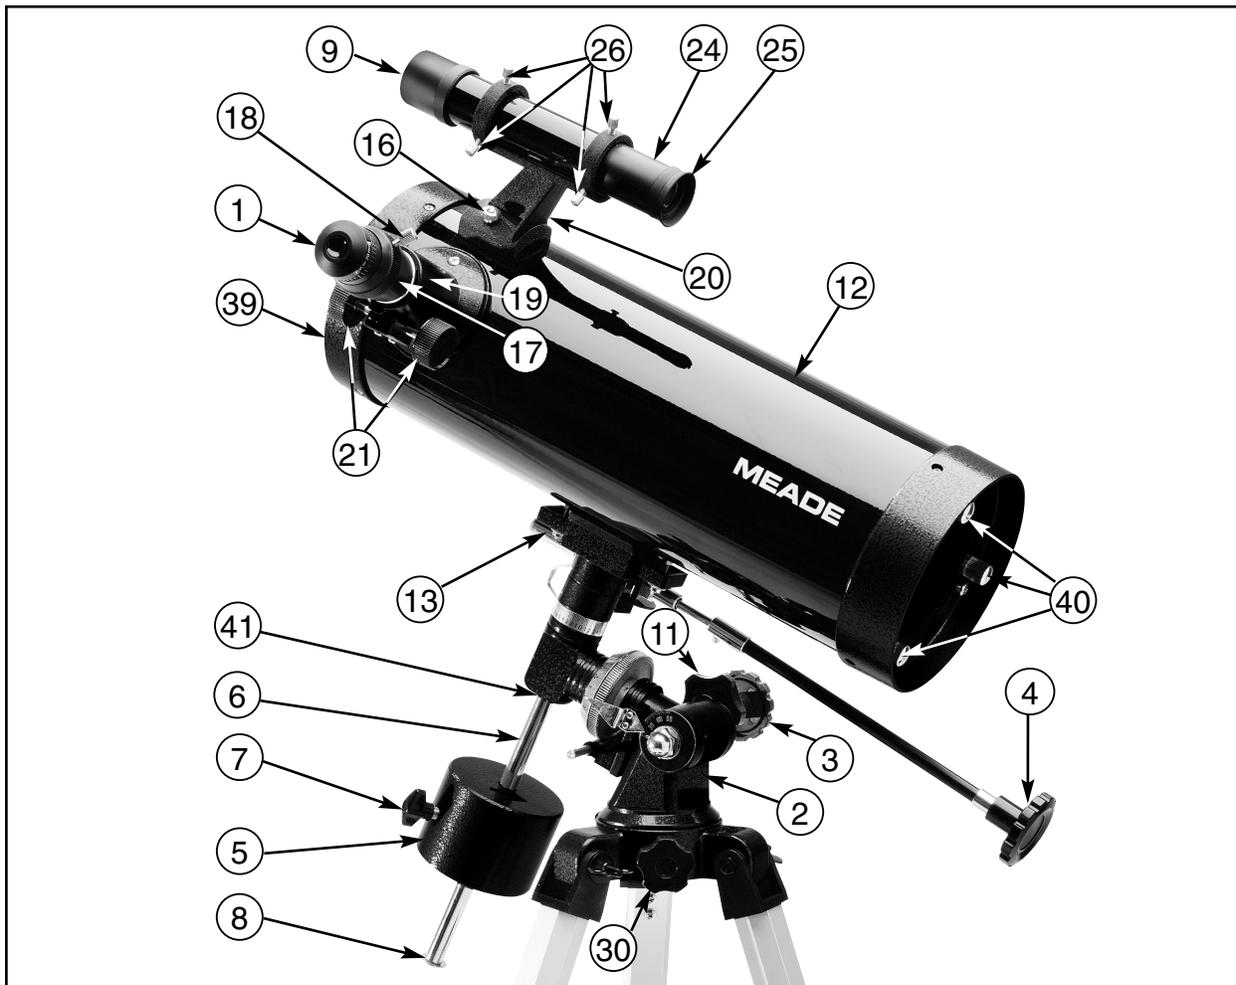
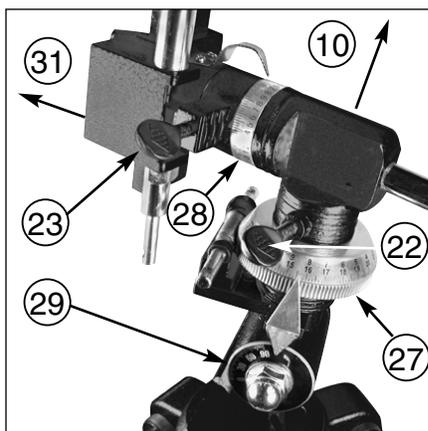
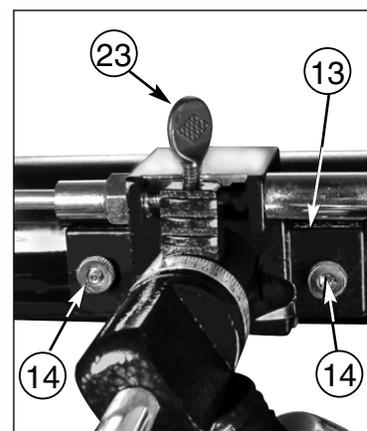
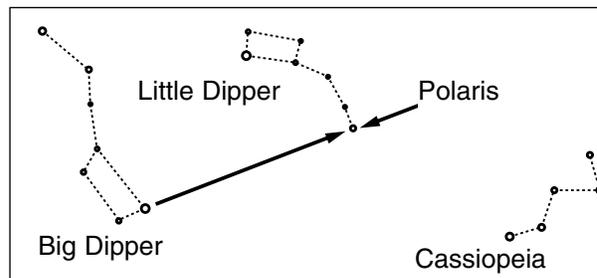

Fig. 1a: Model 114ST EQ-D: Optical tube assembly.
Fig. 1c: Mount features.
Fig. 1d: Optical tube attachment (underside view).
Fig. 5: Locating Polaris.
Key to Figs. 1a - 1g
6. Holding the counterweight (**5, Fig. 1a**) firmly in one hand, slip the counterweight onto the counterweight shaft (**6, Fig. 1a**). Attach the counterweight and counterweight shaft, by supporting the unlocked counterweight firmly in one hand while threading the counterweight shaft into the base of the Declination axis of the telescope's equatorial mount (**41, Fig. 1a**). Once firmly attached, slide the counterweight about 2 inches from the bottom of the counterweight shaft and secure it in place with
the counterweight lock (7, Fig. 1a) of the counterweight. **Note:** If the counterweight ever slips, the secured threaded safety washer/screw (8, Fig. 1a) will not let the weight slide entirely off the counterweight shaft. **Be certain that this safety washer/screw is always in place.**
7. Attach the flexible cables (4, Fig. 1a) and (3, Fig. 1a and 1e), as shown. These cables are secured in place with a firm tightening of the thumbscrews located at the attachment ends of each cable.
8. Tilt the polar axis (10, Fig. 1c) of the telescope to roughly a 45° angle with the horizon. This tilt is accomplished by first loosening the latitude adjustment lock (11, Fig. 1a and 1e), adjusting the mount and firmly re-tightening the latitude control lock.
9. Remove the optical tube attachment thumbscrews (14, Fig. 1d) from the optical tube mounting bolts that are on the underside of the main optical tube (12, Fig. 1a). Then lay the telescope optical tube assembly onto the saddle plate (13, Fig. 1a) passing the mounting bolts through the holes in the saddle of the mount. Re-attach the attachment thumbscrews to the mounting bolts, and tighten to a firm feel. See Fig. 1d.
10. Attach the viewfinder bracket (20, Fig. 1a) to the telescope using the 2 thumbscrews provided (16, Fig. 1a). The bracket fits over the two small bolts. Thread the thumbscrews over the bolts and tighten to a firm feel. Slide the Viewfinder tube (24, Fig. 1a) into the bracket and loosely tighten the tube using the Viewfinder adjustment screws. Remove the Viewfinder dustcover (9, Fig. 1a). See "Aligning the Viewfinder" below.
11. Insert the 25mm eyepiece (13, Fig. 1) into the eyepiece holder (17, Fig. 1a). Secure the eyepiece in place by tightening the eyepiece holder thumbscrews (18, Fig. 1a) to a firm feel.
The telescope is now completely assembled. Before it can be affectively used, however, the viewfinder (24, Fig. 1a) must be aligned with the main telescope.
The wide field of view provided by the 5 x 24mm viewfinder permits easy object sighting prior to observation in the higher-power main telescope. The 5 x 24 Viewfinder (24, Fig. 1a) and viewfinder bracket (20, Fig. 1a) attaches to the telescope tube assembly as described above. In order for the viewfinder to be functional, however, it must be aligned to the main telescope, so that both the viewfinder and main telescope point at the same position in the sky. With this simple alignment performed, finding objects is greatly facilitated, since you will first locate an object in the wide-field viewfinder, then you will look in the eyepiece of the main telescope for a detailed view. To align the viewfinder follow these steps:
1. Remove the telescope front dust cover (39, Fig. 1), and the dust cover of the viewfinder (9, Fig. 1a).
3. Unlock the Right Ascension (R.A.) lock (22, Fig. 1c) and the Declination (Dec.) lock (23, Fig. 1c) so that the telescope turns freely on both axes. Then point the main telescope at some well-defined land object (e.g. the top of a telephone pole) at least 200 yards distant, and re-lock the R.A and Dec. axes. Turn the flexible cable controls, (4, Fig. 1a) and (3, Fig. 1a and 1e), to center the object in the telescopic field.
4. With the front of the viewfinder already centered in the front bracket ring, look through the viewfinder and loosen or tighten, as appropriate, one or more of the rear viewfinder bracket ring thumbscrews (26, Fig. 1a) until the viewfinder's crosshairs are likewise centered on the object previously centered in the main telescope.
1. Loosen the R.A. lock (22, Fig. 1a). With the R.A. lock loosened, the telescope mount will turn freely about the polar axis (10, Fig. 1c). Rotate the telescope about the polar axis so that the counterweight shaft (6, Fig. 1a) is parallel to the ground (horizontal).
2. Loosen the counterweight's lock (**7, Fig. 1a**) and slide the counterweight (**5, Fig. 1a**) along the shaft until the telescope remains in any given position without tending to drift up or down the polar axis. Then retighten the counterweight lock.
With all celestial objects therefore capable of being specified in position by their celestial coordinates of Right Ascension and Declination, the task of finding objects (in particular, faint objects) in the telescope can be simplified. The setting circles, R.A. (**27, Fig. 1c**) and Dec. (**28, Fig. 1c**) of the Meade 114ST EQ-D telescope may be dialed, in effect, to read the object's coordinates, positioning the object in the vicinity of the telescope's telescopic field of view. However, these setting circles may be used to advantage only if the telescope is first properly aligned with the North Celestial Pole.
1. Release the Azimuth lock (**30, Fig. 1a** and **1e**) of the Azimuth base, so that the entire telescope-with-mounting may be rotated in a horizontal direction. Rotate the telescope until the polar axis (**10, Fig. 1c**) points due North. Use a compass or locate Polaris, the North Star (see **Fig. 5**), as an accurate reference for due North.
3. Determine the latitude of your observing location by checking a road map or atlas. Release the latitude lock (**11, Fig. 1a** and **1e**) and tilt the telescope mount so that the star "Polaris" is centered in the telescope's viewfinder eyepiece, then re-tighten the latitude lock.
4. If steps (1) - (3) above were performed with reasonable accuracy, your telescope is now sufficiently well-aligned to the North Celestial Pole for visual observations.
- To center an object in the main telescope, loosen the telescope's R.A. lock (**22, Fig. 1c**) and Dec. lock (**23, Fig. 1c**). The telescope can now turn freely on its axes. Use the aligned viewfinder to first sight-in on the object you wish to observe; with the object centered on the viewfinder's crosshairs, re-tighten the R.A. and Dec. locks.
- Manually turn the R.A. setting circle (**27, Fig. 1c**) to read the R.A. of the object now in the telescope’s eyepiece.
- The setting circles are now calibrated (the Dec. setting circle (**28, Fig. 1c**) is factory calibrated). To locate a nearby faint object using the setting circles determine the faint object’s celestial coordinates